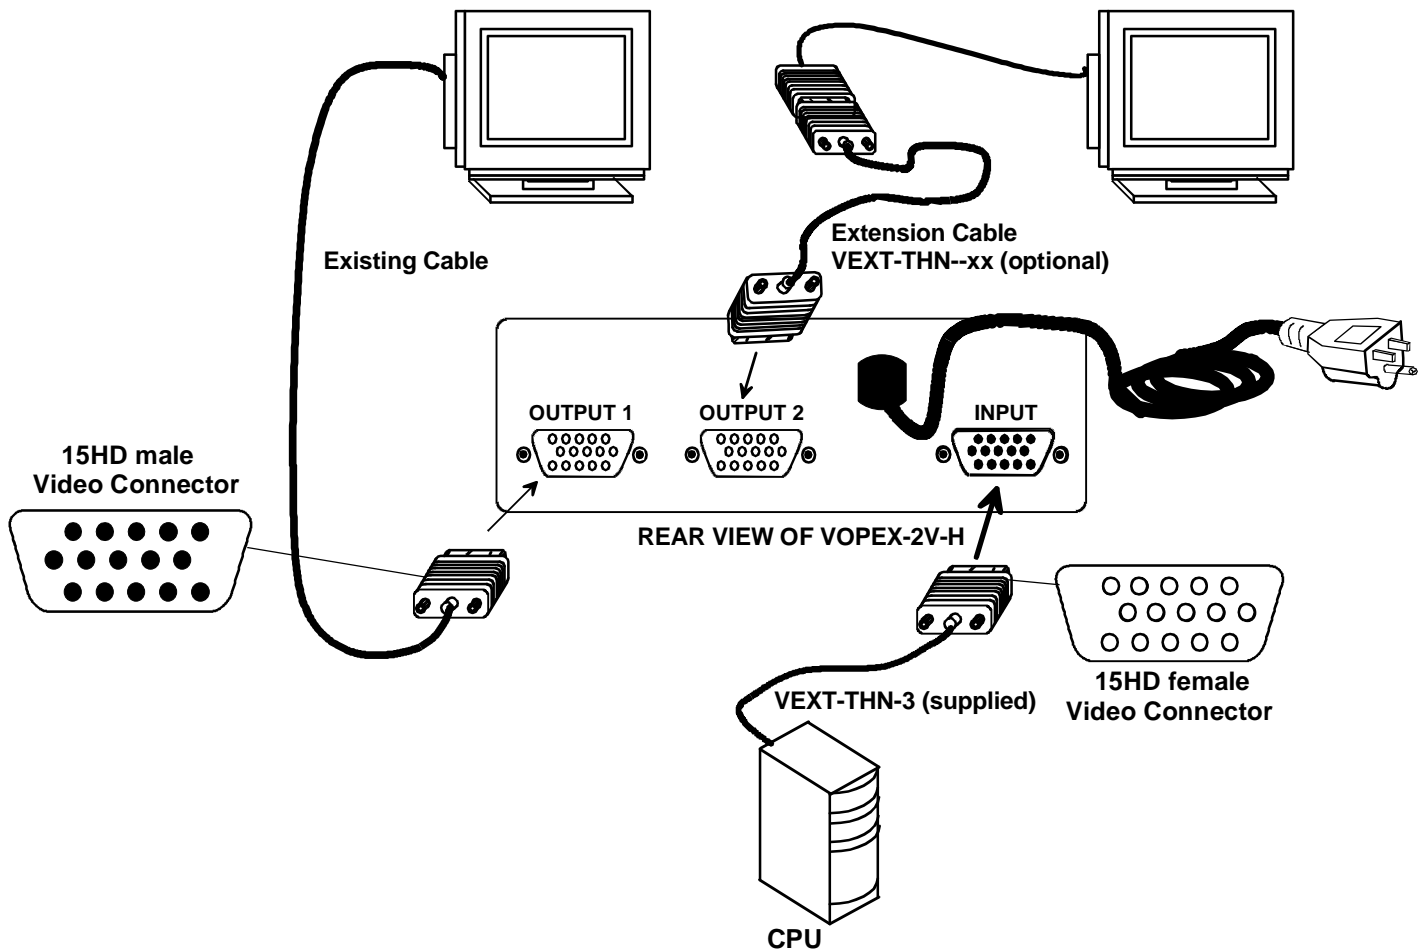

Figure 1- Connect VOPEX to monitors and CPU
2. Disconnect the monitor cable at the CPU and reconnect it to OUTPUT 1 on the rear of the VOPEX. OUTPUT 1 **must** be connected to a monitor for the unit to operate properly. It is labeled as such (see Fig. 1).